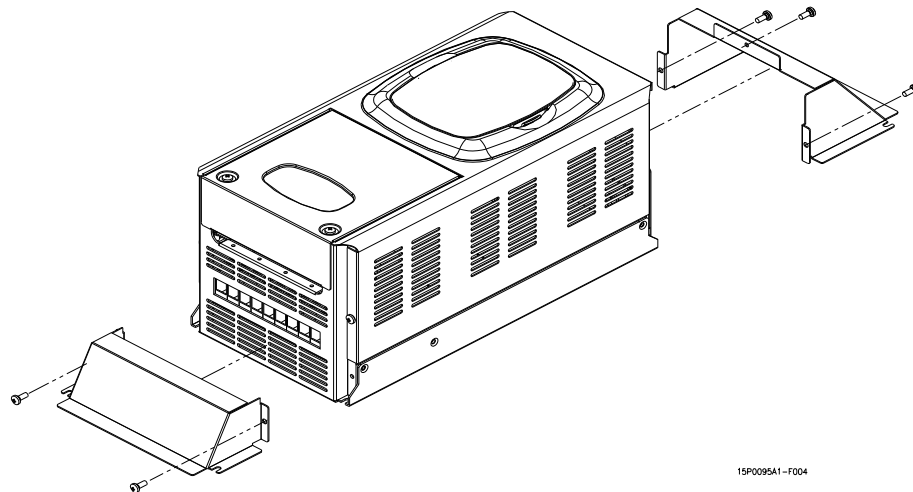

Figure 1: Mounting the accessories for SINUS K S05 through-panel assembly.
For this inverter size, the air flow of the power section is segregated from the air flow of the control section thanks to the installation of two optional mechanical parts to be assembled with five (5) M4 self-forming screws (see Figure 1).